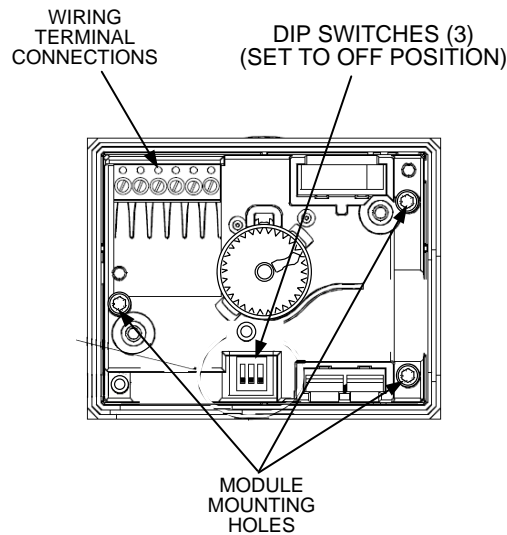

Figure 8-23. Electronics Module with Cover Removed
3. Remove the Module cover to access the wiring terminals (Figure 8-23). Disconnect and tag the power and control signal wire leads from the Module terminals.
4. Using a 3 mm Allen key, loosen the three (3) socket head screws securing the blue Electronics Module to the black Valve Head. These screws are recessed and the Allen key must be inserted into the holes shown in Figure 8-23 to engage the screw heads.
7. Refer to Figure 8-23 and ensure that the three (3) DIP switches on the replacement Module are all in the OFF (down) position.
7. While supporting Control Valve from above, loosen all three (3) unions securing the Valve.
9. Install the replacement Control Valve and ensure that the seals are not pinched. Hand-tighten the unions. **NOTE:** Two (2) pipe wrenches **MUST** be used when tightening the Valve unions to prevent pipe rotation and avoid leaks
10. Using two (2) pipe wrenches, secure the Control Valve unions to the Boiler Water piping.
11. Refer to Figure 8-23 and ensure that the three (3) DIP switches on the Electronics Module of the replacement Valve are all in the OFF (down) position.